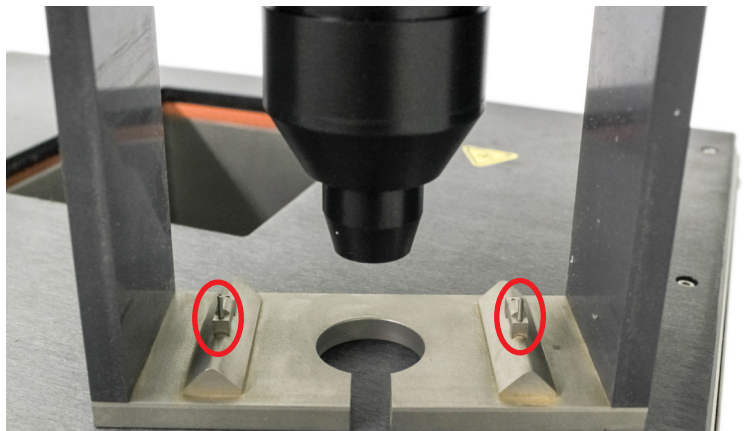

Figure E.17 - BBR3 anvil adapters
1. Before running this test you will need to remove the (2) anvil adapters from the Anvil. This is performed by lifting STRAIGHT UP on each adapter off the guide pins. See Figure E.17.